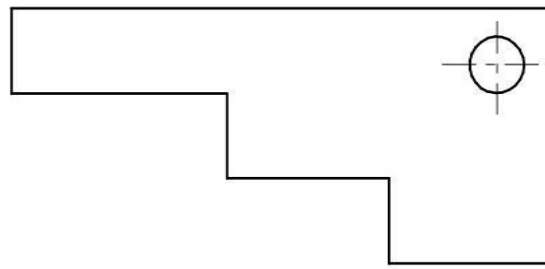

Fig.4
- Copy Fig. 4 to 2:1 Scale and dimension it using Aligned system with Chain dimensioning.